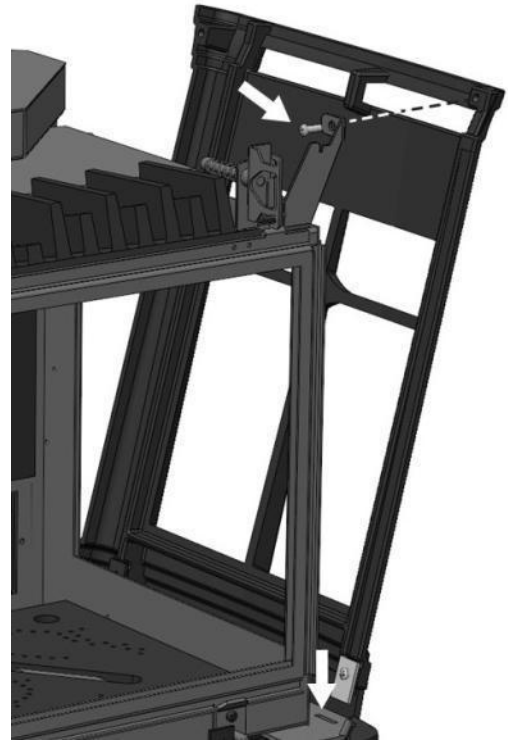

Figure 36 - Side Panel Mounting Detail
3. To dismount the side panels, first remove the top and front façade iron. Remove the top mounting machine screws while holding the iron from falling out, and then lift the side iron panel off the stove (See Figure 36 - Side Panel Mounting Detail)